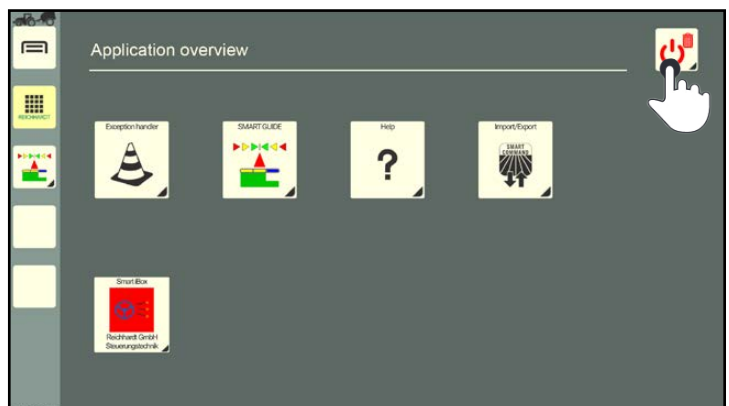

Fig. 67: Pressing and holding the Delete/Exit button
2. Press and hold the Delete/Exit button (see Fig. 67).